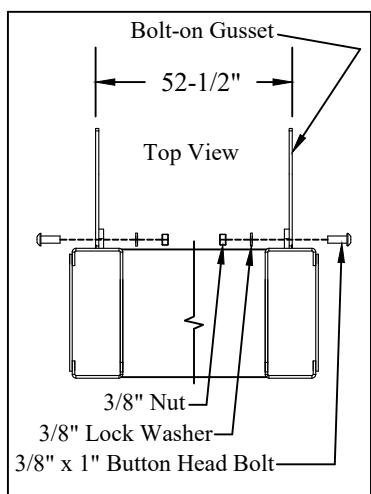

Figure 3: Top view of liftgate bolt-on gussets.
1. Install the bolt-on gussets with eight (8) 3/8" x 1" button head bolts, lock washers, and nuts (Figures 3 & 4).